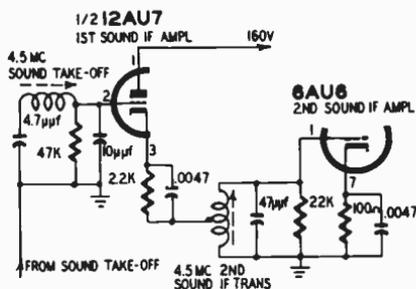

Fig. 2-S. Typical sound if stages.
**SERVICE:** Sound if and FM detector alignment are the first consideration. Any unbalance in the detector (including a faulty tube) may be the trouble. Do not overlook the usual causes of distorted sound following the FM detector in the audio portion. Distortion can be caused by loose slugs in sound if and detector transformers. Many cases of distorted or missing sound are due to improper operation of the receiver's controls but some may be traced to excessive oscillator drift. A bad tube is usually at fault when poor front-end design is not evident. Misalignment of the rf and if stages is an obvious cause of the same trouble. (A common mistake is to realign the picture if rather than the sound stages. The sound if bandpass is not as wide as that of the video if; therefore the former is more critical.) Fig. 2-S shows circuits of typical sound if stages.